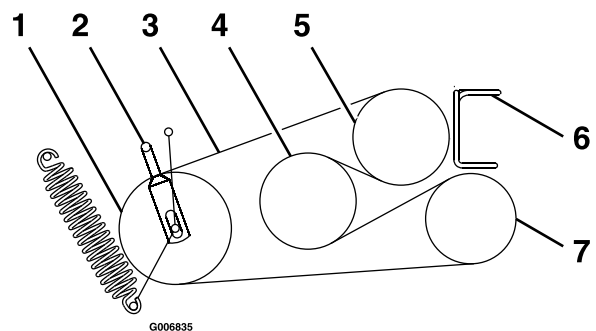

Figure 8
5. Loosen belt guides “A” and “B” (See Figure 8).
7. Route new belts onto sheaves as shown in the decal located on the back of the left drive shield (see Figure 8).